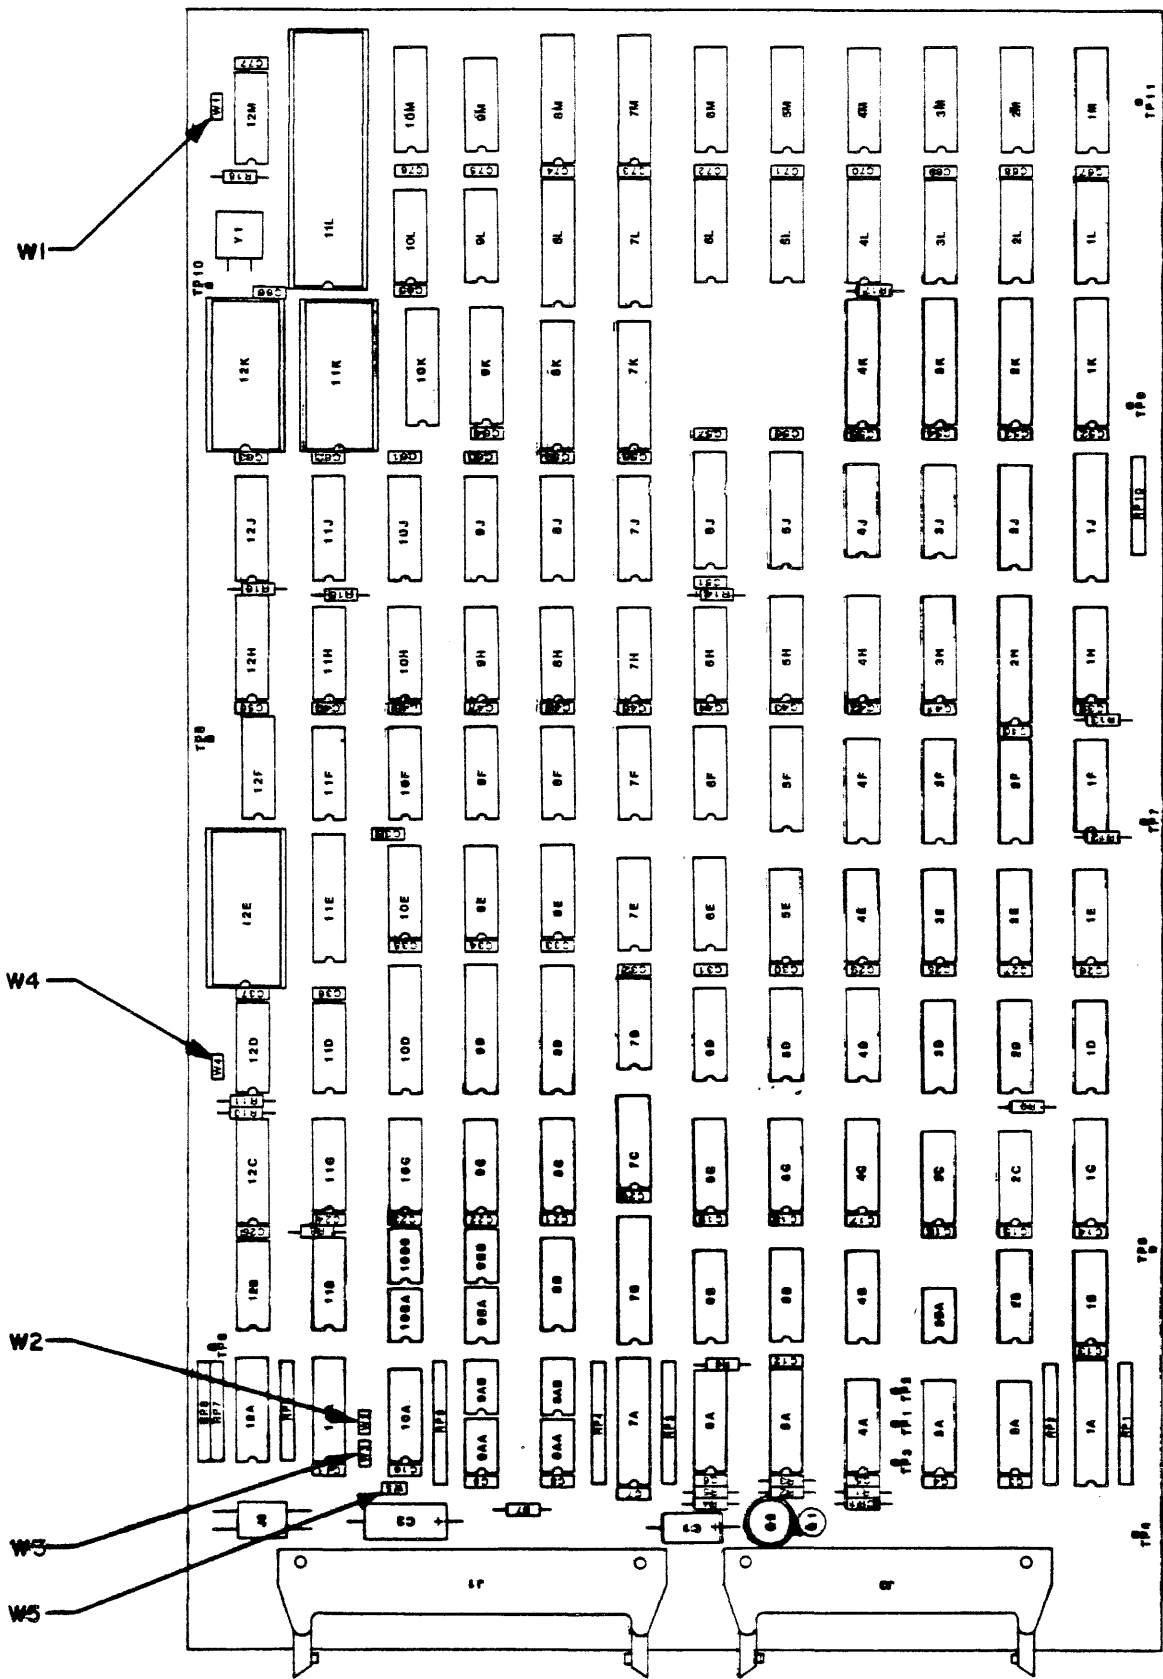

FIGURE 2 - SMART JUMPER LOCATIONS
A. Jumpers for SMART Interface, refer to Figure 2
- 16. Connect the 2 pin power connector to J3 of SMART or SMART-E PCBA. Refer to Figure 2 and 3. IMPORTANT. Insure that lip of connector is facing up and locks with J3 receptacle. INCORRECT ORIENTATION WILL RESULT IN DAMAGE TO PCBA.